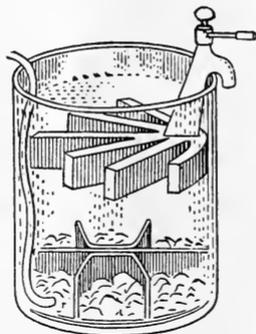

FIG. 9.
**35.** A GRAVITY CELL (see fig. 9) is made of the same materials as the Daniell's cell, but the arrangement is different. The blue vitriol, being much heavier than the well diluted sulphuric acid, is put in the bottom of the jar with the copper plate and the crystals. Then water is poured on very gently, so it will float on top, and the zinc is suspended in it. By pouring a few drops of sulphuric acid into the water, the cell will at once work. The two liquids mix gradually by diffusion, unless there is a constant current. If the copper sulphate reaches the zinc, it deposits on it oxide of copper, making it unfit for service, until cleaned. It is very good in a closed circuit battery, there being absolutely no polarization but not for intermittent work. The E. M. F. is 1.07 volts.